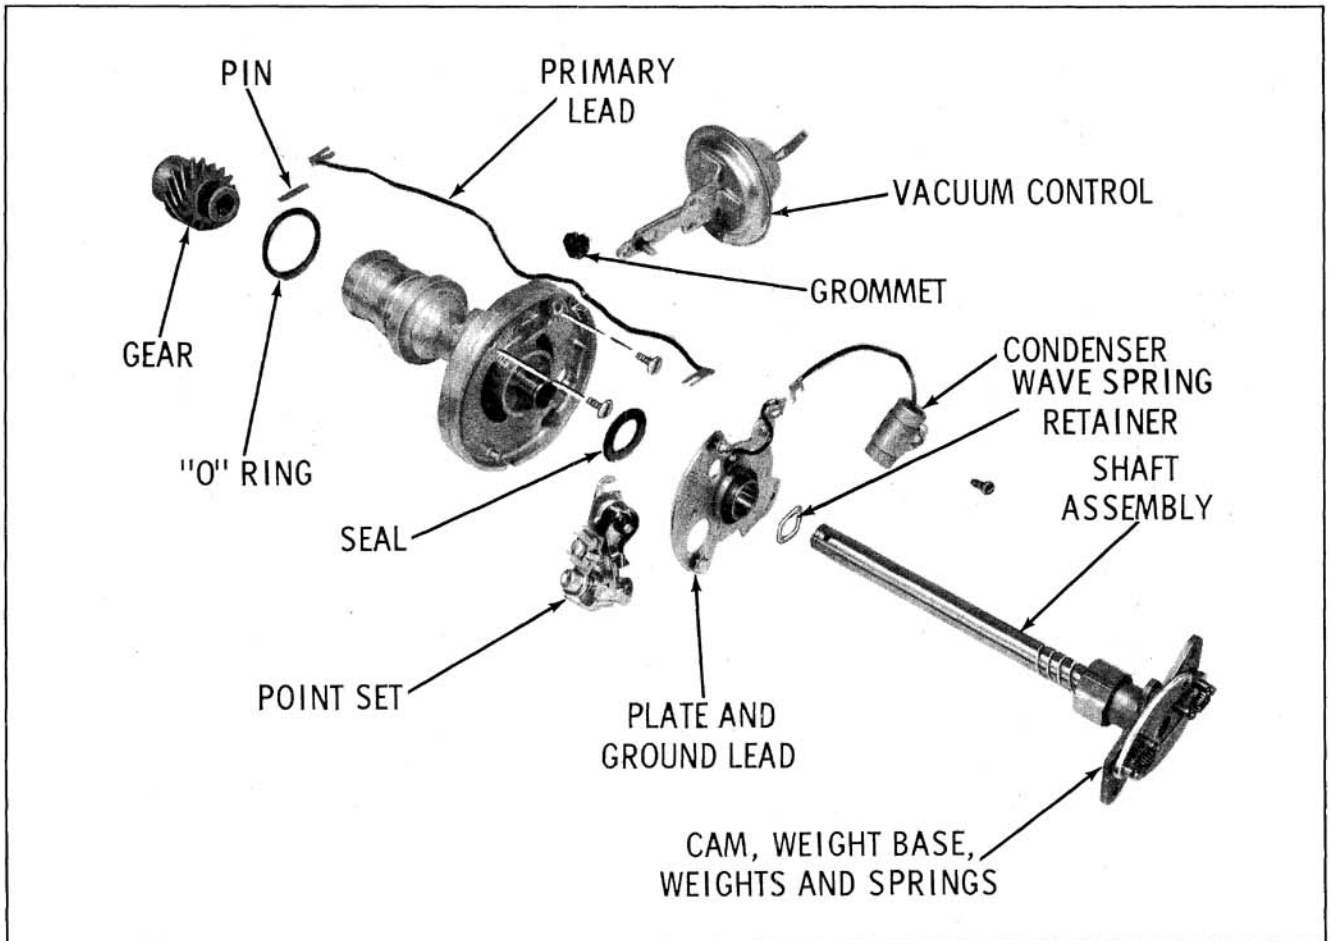

Fig. 13-71 Distributor Disassembled
4. Remove the retaining ring from the upper bushing and lift the breaker plate and felt wick from the bushing. (Fig. 13-71)